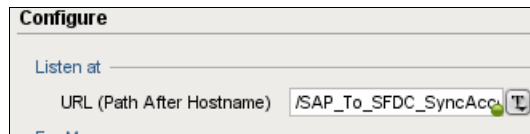

Figure 10-55 Receive request URL configuration
- ▶ You can change the HTTP Receive Request activity. As shown in Figure 10-55, the URL is specified statically in the Configure pane.